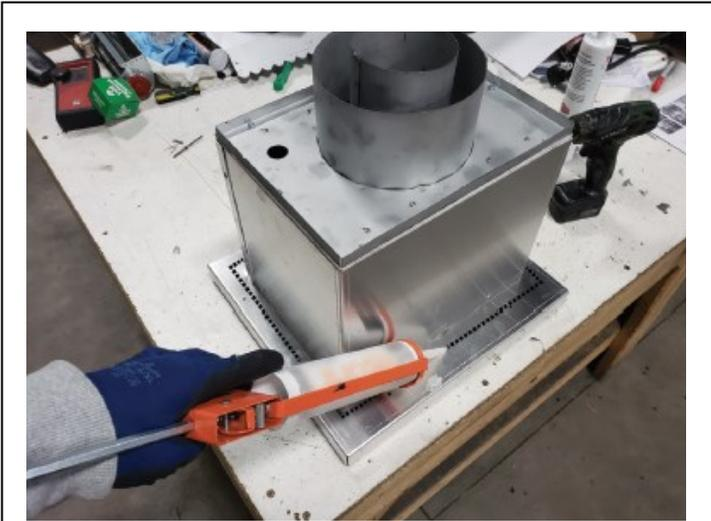

Figure 6.5 - Silicone Backside
5. Place a bead of silicone on the backside of the power vent assembly as shown in Figure 6.5. This silicone will seal the power vent cap to the framed opening of the building or to the Finishing Extension Kit.